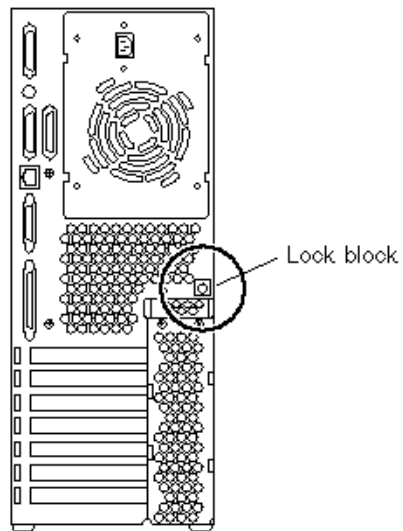

Figure 7-1 Lock Block Location
2. **Disconnect the lock block (Figure 7-1).**
3. Connect the lock block (Figure 7-1).